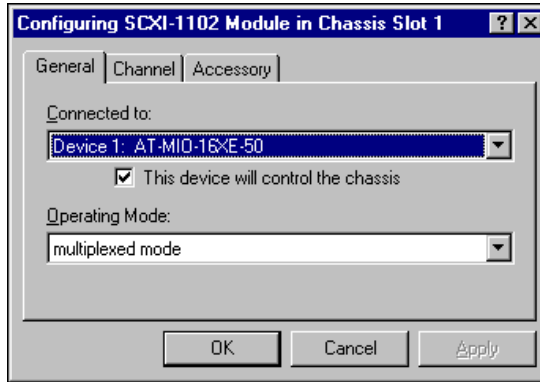

Figure 5. SCXI Module General Tab
- Click the **General** tab shown in Figure 5 and the **Channel** tab shown in Figure 6. All items on both the **General** and **Channel** tabs should have defaulted to the correct settings. If the default settings are incorrect or incomplete, change them as needed as shown in Figure 5 and 6.
10. Configure the module as described in Configure the System and shown in Figures 5, 6, and 7.